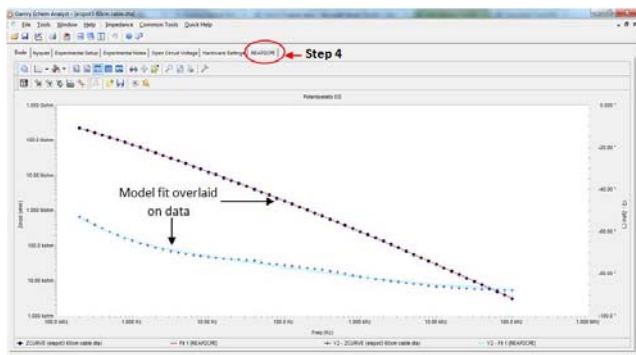

Figure 9: The red and blue lines are the model's fit to the data. Click the circled tab to see goodness of fit and model parameters
4. Once 'AutoFit' has been clicked a fit line will appear on the data. The fit should mimic the actual data. The values for the model components, as well as the goodness of fit, can be found in a new tab with the name of the model used. In this case the tab is named 'REAP2CPE'. See **figure 9**.